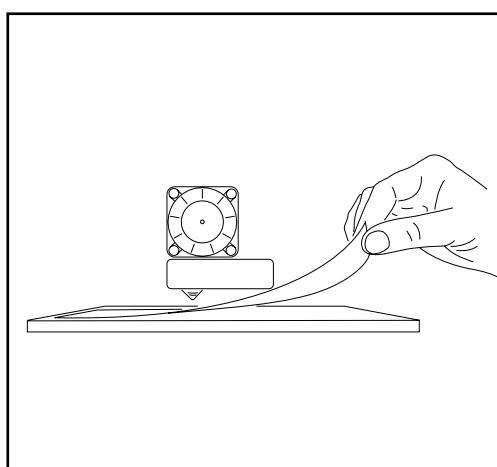

Figure 3.10 Slide a sheet of paper between the base and the extruder nozzle
- ① Place a sheet of paper onto the print base (fig. 3.10). Press the control wheel and go to **Control > Level Plate**.